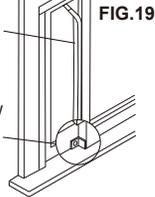

FIG.19
**21** Stuff the window sash seal between the vertical sash and the window glass, as shown (FIG.19).
**22** Use the window locking bracket to lock the inner window sash to the base of the outer window sash (FIG.19). Use one #8 x 3/4" screw, or #8-32 x 3/4" self-threading screw. (Drill 1/8" pilot hole).